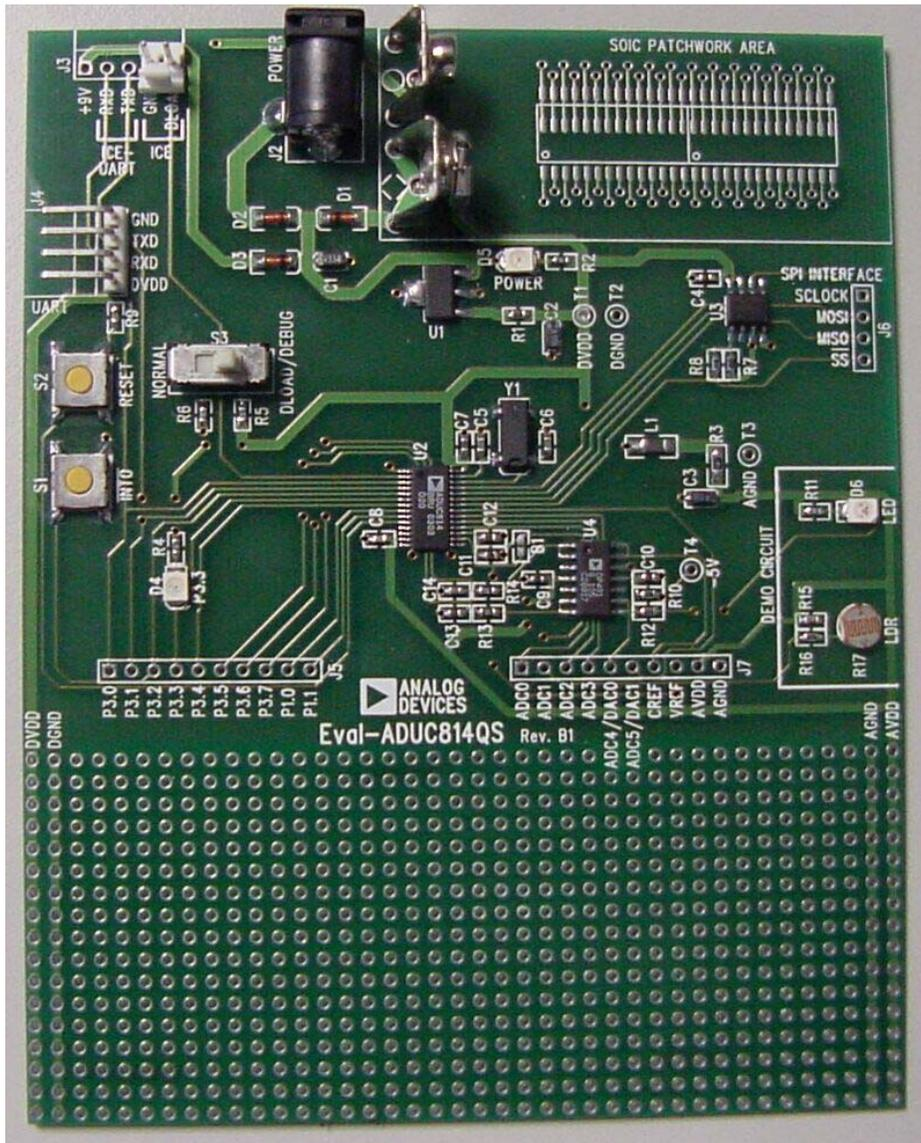

Figure 1: Reference Orientation of the ADuC814 Evaluation Board
1. All references in this document to physical orientation, placement of connectors and components are made with respect to a component side view of the board with the Battery Connector (J1) appearing in the top right hand corner of the board as shown in figure 1.